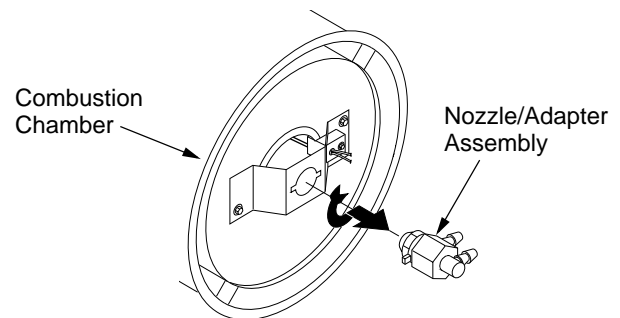

Figure 23 - Removing Nozzle/Adapter Assembly
4. Turn nozzle assembly 1/4 turn to left and pull toward motor to remove (see Figure 23).
10. Attach nozzle assembly to burner strap (see Figure 23).